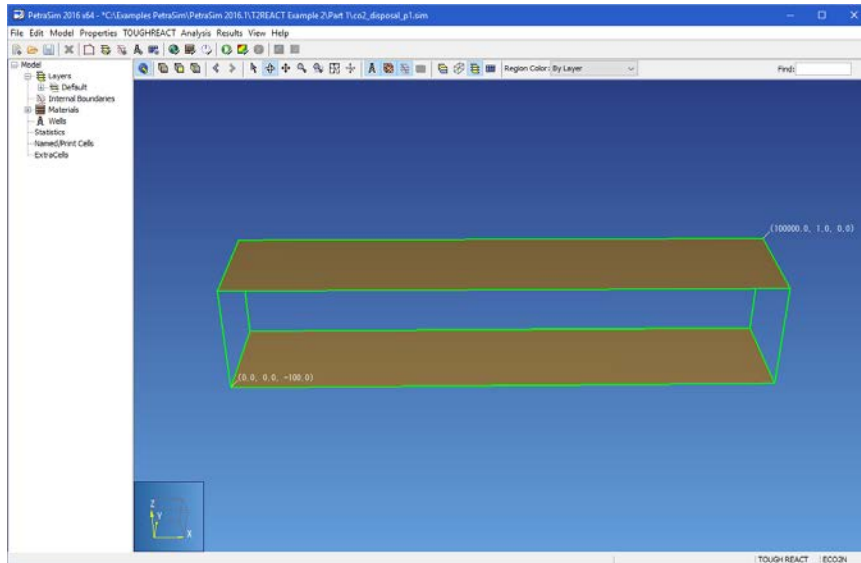

Figure 2: Model after applying view scale.
4. Click **OK** to set the view scale. The model should now appear as shown in Figure 2.